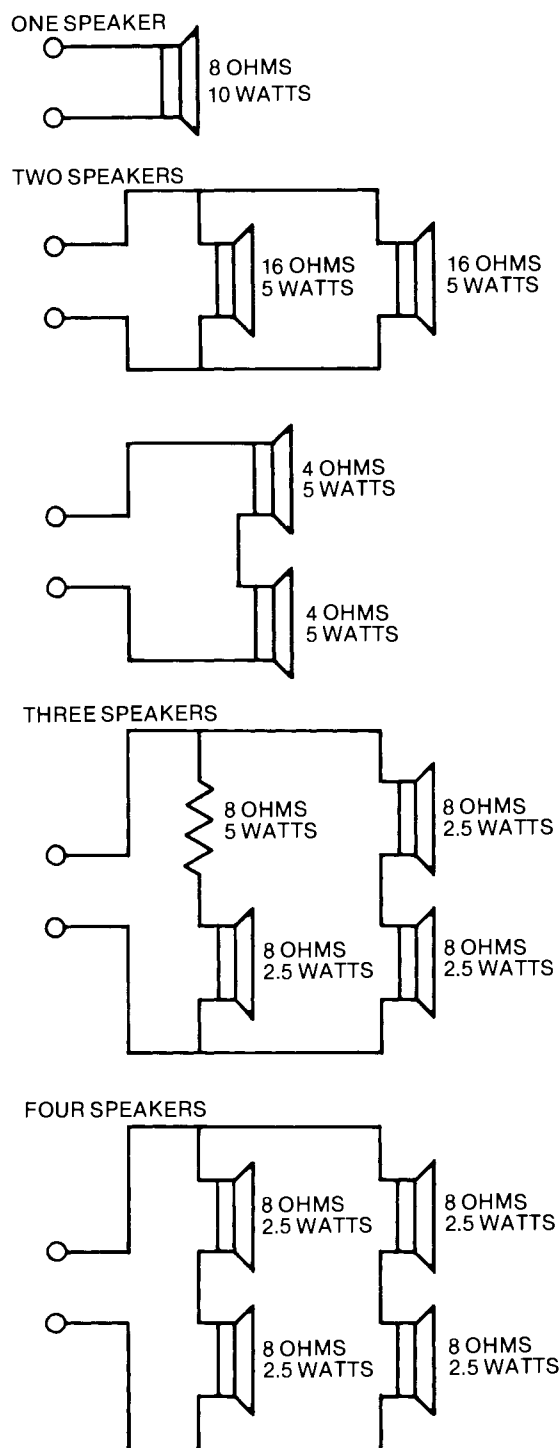

Fig. 5 — Optional Speaker Arrangements.
3.01 Mount the KT-363 on a wall, in a relay rack or on a backboard and make connections to the KT-363 connecting block as shown in Figure 2. The selected R ( ) lead determines the intercom station number that accesses paging. Optional speaker arrangements are shown in Figure 5.
(Figure 5)
screw adjustment adjacent to the LED. Independent volume control at any speaker in the network can be attained by replacing the speaker network as shown in Fig. 5.
3.07 Adjust each area amplifier for appropriate volume. The adjustment screw is within the hole next to the area LED. If independent volume control is desired for any speaker in the network, replace the speaker with the L-Pad attenuator/speaker network as shown in Fig. 5.